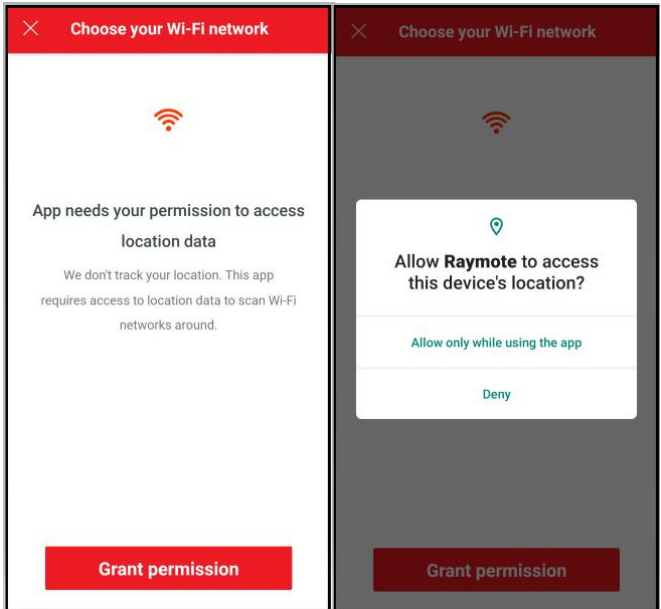

**Figure 84. Connecting**
- 3. You may be prompted to confirm selected heater. Wait a few seconds while the Raymote app connects to your heater as shown in **Figure 84**.